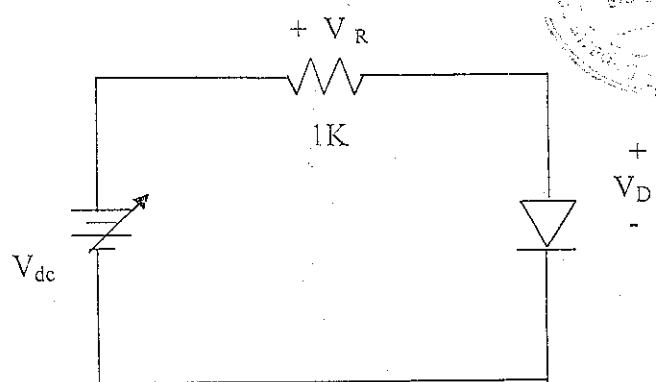

Fig. 3
2. Repeat step 1 for the values at $V_z=0.5V, 1.0V, 1.5V, 2.0V, 2.5V, 3V$ and so on up to the maximum value obtainable without increasing V_{dc} beyond 25V. Apply circuit in Fig. 3 for this step.